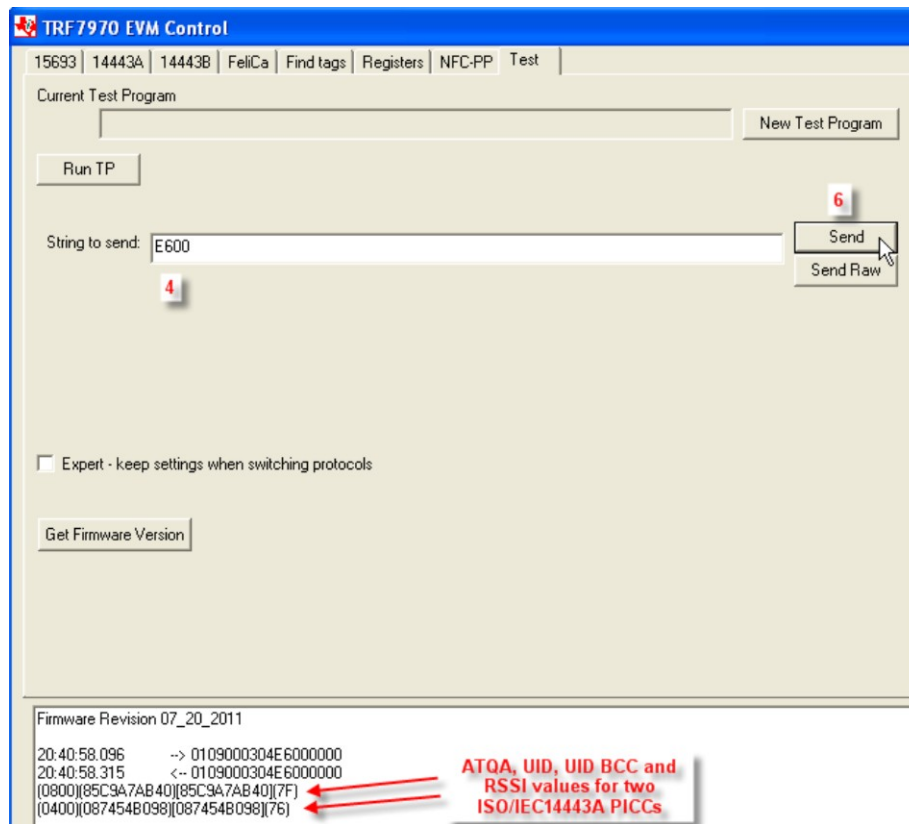

Figure 21. Anticollision Command Example for Two Type A PICCs
4. Type the string *E600* in String to Send window (see Figure 21).